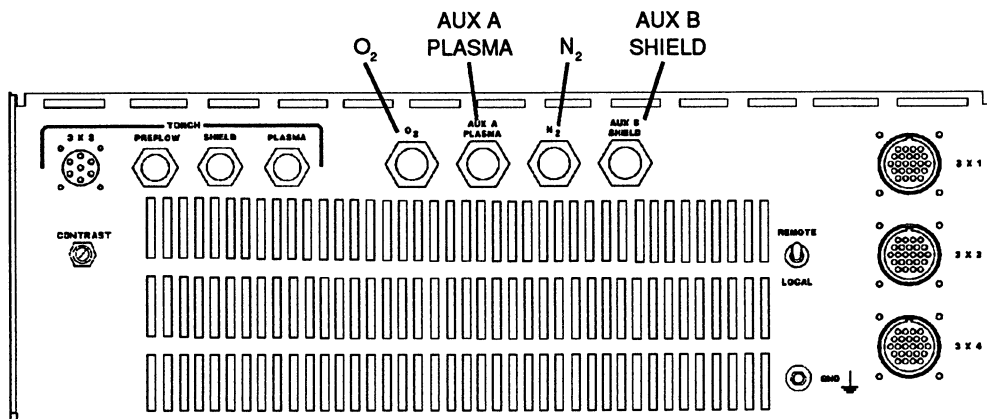

Figure 4 Remove Gas Fittings
1. At the rear of the automatic gas console, remove the O₂, AUX A PLASMA, N₂ and AUX B SHIELD gas fittings using 5/8-inch wrench and discard. (Fig. 4)